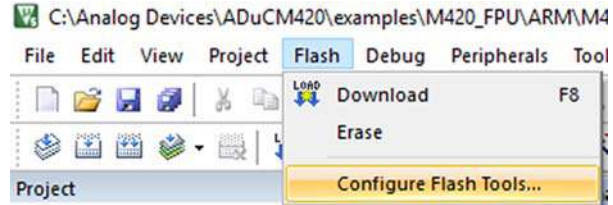

Figure 26. Keil **Flash** Dropdown Menu Options
- After opening the Keil IDE, click the **Flash** dropdown menu, and select the **Configure Flash Tools** option (see Figure 26).